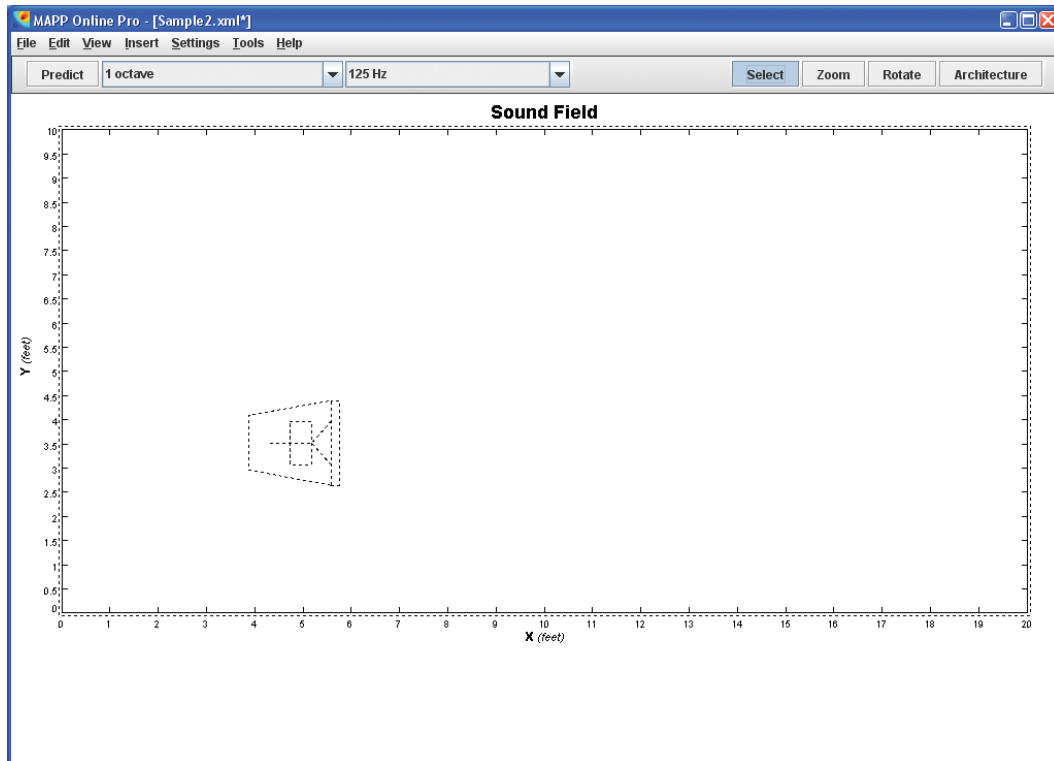

Figure 11. Loudspeaker is selected and moved from original location.
2. Left-click the mouse, and drag the object or group of objects to the desired new position (Figure 11).